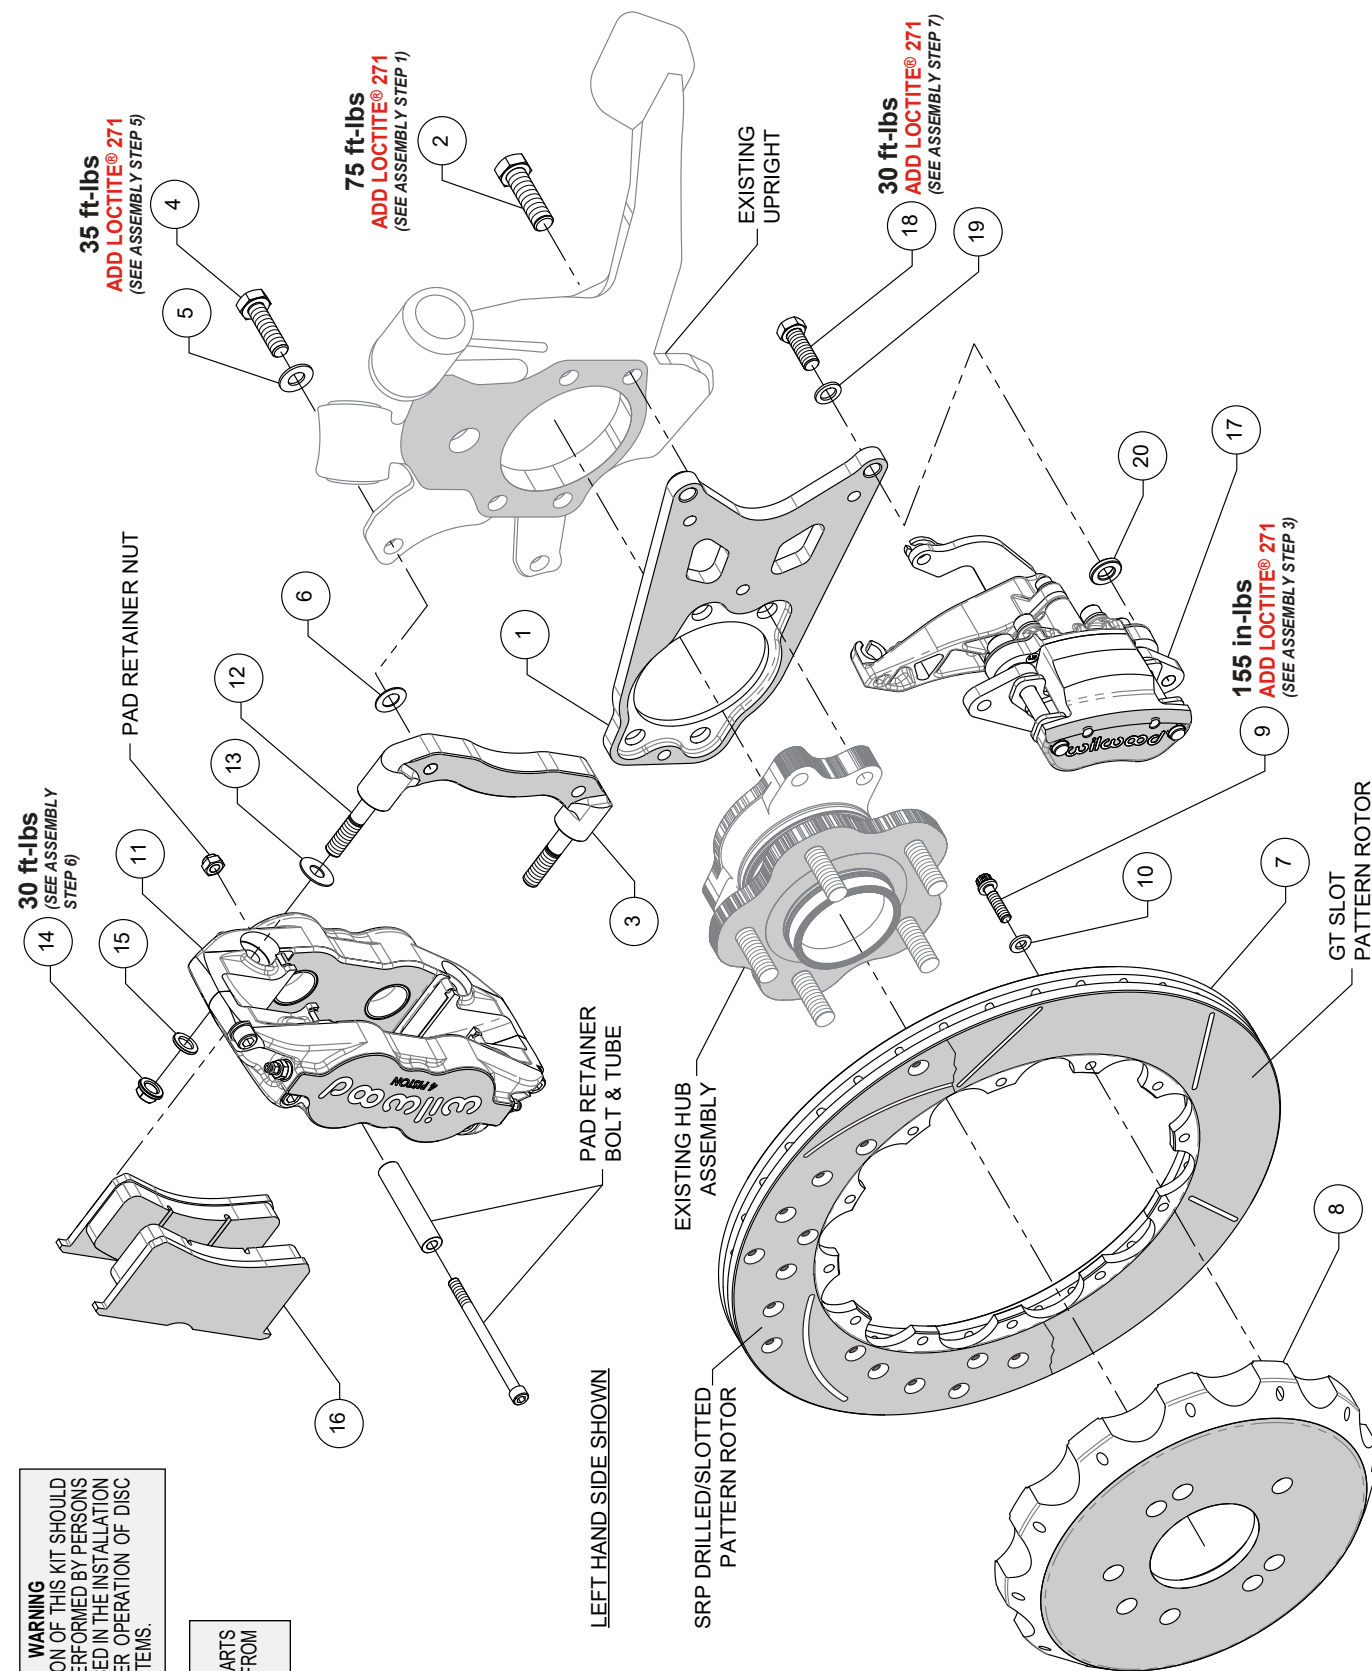
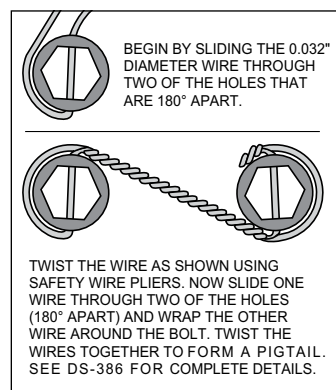

Figure 1. Typical Installation Configuration
Figure 2
NOTE: Numbers in parenthesis refer to the parts list and Figure 1 on the preceding pages.
STEP 1 The parking brake caliper mount bracket (1) should initially be installed with clean, dry threads on the mounting bolts. **NOTE:** The parking brake bracket mounts between the existing upright and hub assembly. Orient the bracket, as shown in Figure 1 and Photo 1, and install using bolts (2). **NOTE:** The bracket must fit squarely against the mount bosses on the hub assembly and upright. Inspect for interference from casting irregularities, machining ridges, burrs, etc. Apply red *Loctite*® 271 to the bolt threads, and torque to value shown in Figure 1.
STEP 2 The caliper mount bracket (3) should initially be installed with clean, dry threads on the mounting bolts. Orient the bracket, as shown in Figure 1 and Photo 2, and install using bolts (4) and washers (5). Initially place one .030" thick shim (6) on each bolt between the bracket (3) and caliper mounting bosses of upright, Figure 1. Temporarily tighten the mounting bolts. **NOTE:** The bracket must fit squarely against the mount bosses on the upright. Inspect for interference from casting irregularities, machining ridges, burrs, etc. Later, after the caliper alignment has been checked, the mount bolts will be secured using red *Loctite*® 271.
STEP 3 Orient the rotor (7) and the hat (8) as shown in Figure 1 and Photo 3. Attach rotor to hat using bolts (9) and washers (10). Apply red *Loctite*® 271 to the bolt threads and torque to value shown in Figure 1 using a criss-cross pattern. For an added measure of security, the bolts may be safety wired using standard 0.032 inch diameter stainless steel safety wire as shown in Figure 2. Please refer to Wilwood's data sheet DS-386 (available at www.wilwood.com/Pdf/DataSheets/ds386.pdf) for complete safety wire installation instructions.
STEP 5 Initially place one .035" thick shim (13) on each stud (12) between the caliper (11) and the bracket (3), as shown in Figure 1 and Photo 4. Mount the caliper (11) onto the bracket (3) using lock nuts (14) and washers (15), Figure 1. Temporarily tighten the lock nuts. View the rotor through the top opening of the caliper. The rotor should be centered in the caliper, Photo 5. If not, adjust by adding or subtracting shims (6) between the bracket and the mounting bosses of hub assembly. Always use the same amount of shims on each of the two mounting bolts. Once the caliper alignment is correct, remove the bracket mounting bolts (4) one at a time, apply red *Loctite*® 271 to the threads, and torque to value shown in Figure 1.
STEP 6 Remove the caliper pad retainer bolt, tube, and nut from the caliper. Insert the brake pads (16) into the caliper, with the friction material facing the rotor, Photo 6. Check that the top of the brake pad is flush with the outside diameter of the rotor, Photo 7. If not, adjust by adding or subtracting shims (13) on the stud (12) between the caliper (11) and the caliper mount bracket (3). After the caliper pad height is set, torque the caliper lock nuts (14) to value shown in Figure 1. Secure the brake pads in place with the pad retainer bolt, tube, and nut, Figure 1.
STEP 7 Orient the parking brake caliper (17), as shown in Figure 1, and install using bolts (18) and washers (19). Place one .125" thick spacer (20) on each bolt between the bracket (1) and parking brake caliper (17) as shown in Photo 8 (arrow). Apply red *Loctite*® 271 to the bolt threads (18) and torque to value shown in Figure 1.